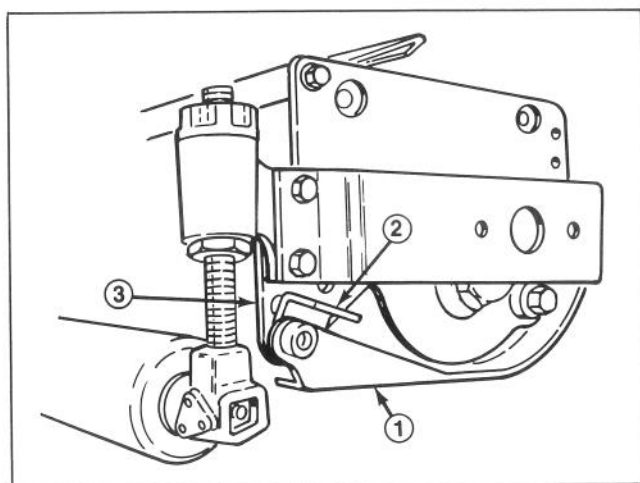
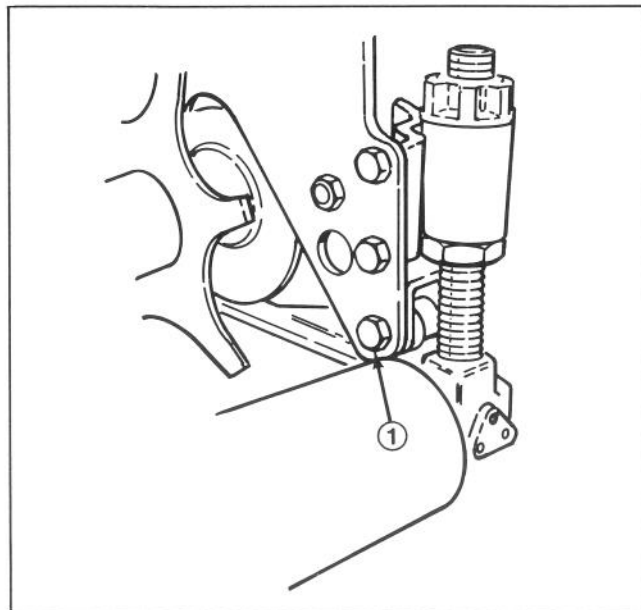

Figure 2
Figure 3
3. Using roller bracket as a spacer, position it between skid and sideplate, aligning mounting holes as shown in Fig. 2.
4. Secure roller bracket (spacer) and skid to sideplate with bolt previously removed (Fig. 2). Bolt to be installed from reel side of sideplate (Fig. 3).